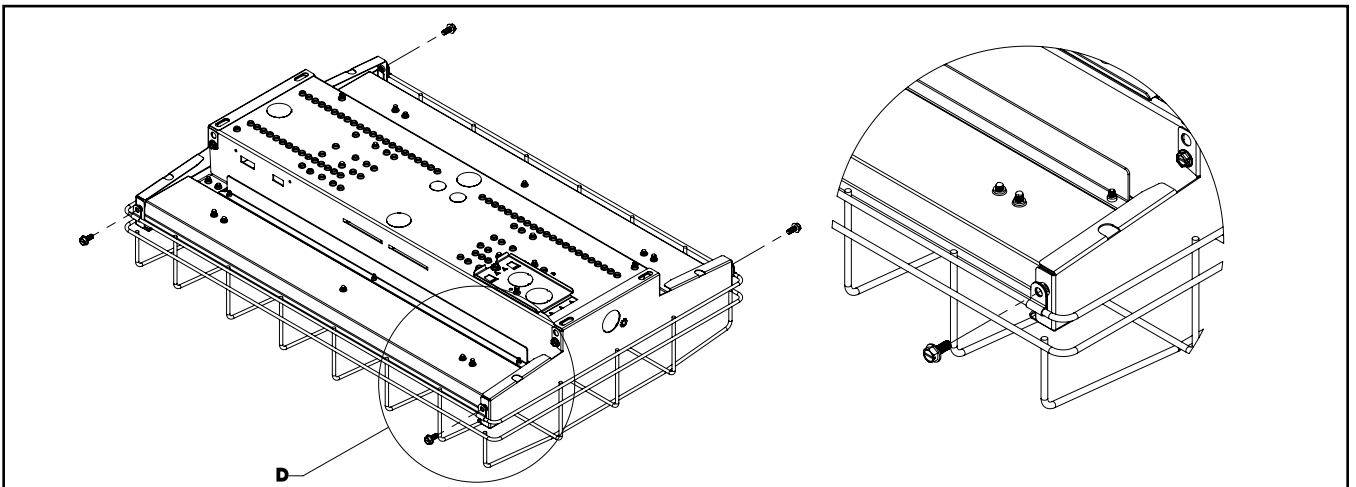

Figure 6.
6. Install and tighten the 4 #10 x 3/8" sheet metal screw through the mounting clips and into the end plate holes as shown in (Figure 6).